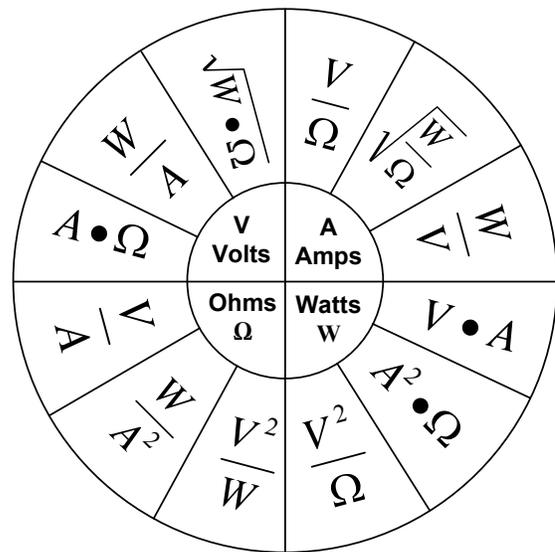

Figure 1: Ohm's Law pie chart
Ohm's law states that the amount of current flowing between two points in an electrical circuit is directly proportional to the voltage impressed across the two points and inversely proportion to the resistance between the points. Thus, the equation $I=E/R$ is the basic form of Ohm's law where the current I is in units of amperes (A), the Electro-motive Force (EMF) or difference of electrical potential E is in volts (V), and R is the circuit resistance given in ohms (Ω). Applying the standard equation relating electrical power to voltage and current ($P=V \cdot A$), cross multiplying and rearranging each of the variables results in the equations shown in the Ohm's law pie chart (see Fig 1) showing the various combinations of the four variables, I, V, Ω and W. Let's use Ohm's pie chart to determine the output voltage, current, and power of a 50Ω amplifier operating under ideal conditions.